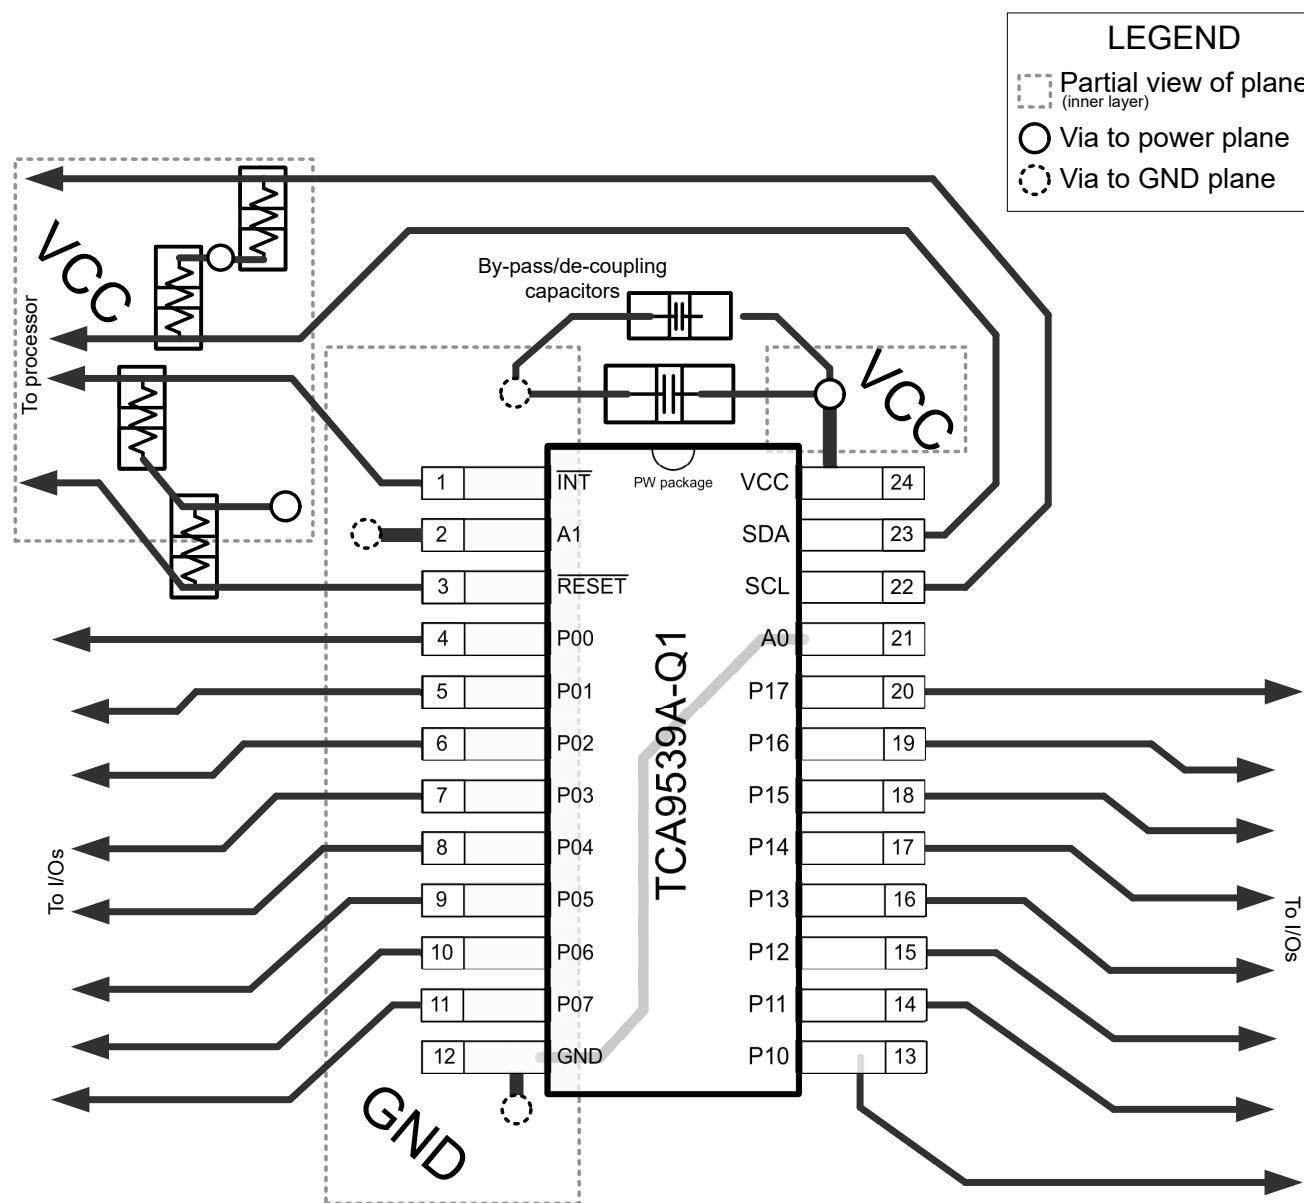

Figure 8-6. TCA9539A-Q1 Layout
In all PCB layouts, the best practice is to avoid right angles in signal traces, to fan out signal traces away from each other upon leaving the vicinity of an integrated circuit (IC), and to use thicker trace widths to carry higher amounts of current that commonly pass through power and ground traces. By-pass and de-coupling capacitors are commonly used to control the voltage on the  $V_{CC}$  pin, using a larger capacitor to provide additional power in the event of a short power supply glitch and a smaller capacitor to filter out high-frequency ripple. These capacitors must be placed as close to the TCA9539A-Q1 as possible. These best practices are shown in Figure 8-6.
For the layout example provided in Figure 8-6, the user can fabricate a PCB with only 2 layers by using the top layer for signal routing and the bottom layer as a split plane for power ( $V_{CC}$ ) and ground (GND). However, a 4 layer board is preferable for boards with higher density signal routing. On a 4 layer PCB, the user can route signals on the top and bottom layer. Dedicate one internal layer to a ground plane, and dedicate the other internal layer to a power plane. In a board layout using planes or split planes for power and ground, vias are placed directly next to the surface mount component pad which must attach to  $V_{CC}$  or GND and the via is connected electrically to the internal layer or the other side of the board. Vias are also used when a signal trace needs to be routed to the opposite side of the board, but this technique is not demonstrated in Figure 8-6.